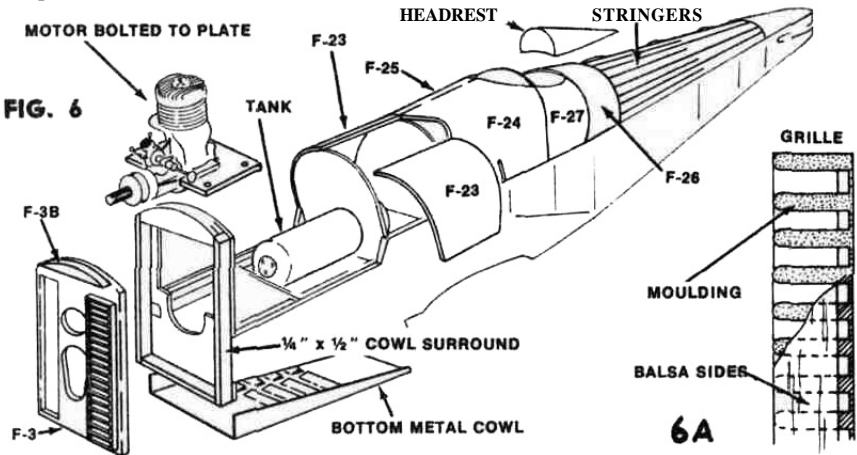

FIG. 6
12. Glue ply F-7 between fuselage sides, lower front. The two holes are for excess engine oil to drain away from the engine bay, and should be positioned just ahead of former F-5. Glue the 1/4" x 1/2" strip parts on the front of F-4 and complete the noseblock by glueing F-3 in place. Figure 6 shows these details. The radiator grille is made from the mouldings supplied. Join two grille pieces and trim to 4-3/4" long. Glue 4-3/4" long pieces of 1/16" x 3/16" on each side to complete the "box." Make sure that all of the cross-bars are glued to these sides; and that the sides are level with the front (open) side of the moulding. Later, when the glue dries, the web holding all the cross-bars at the rear is sanded off, making an open grille very easily and accurately. See Figure 6A. Repeat the whole process for the other grille and cement the finished grilles over the large rectangular holes in F-3. Glue F-3B in place. (Discard second F-3B in other Sheet 2).
of formers **F-14A • F-17**. All stringers are to be glued in "diamond-fashion" This was done to get sharp impressions on the covering, like the real S. E 5A had, and yet have stringers big enough not to warp after covering Glue in the rest of the stringers, observing that they are alternately long and short (see Figure 6). When dry, cut back short stringers level with rear of F-16 Carve and sand tail block to conform to fuselage shape